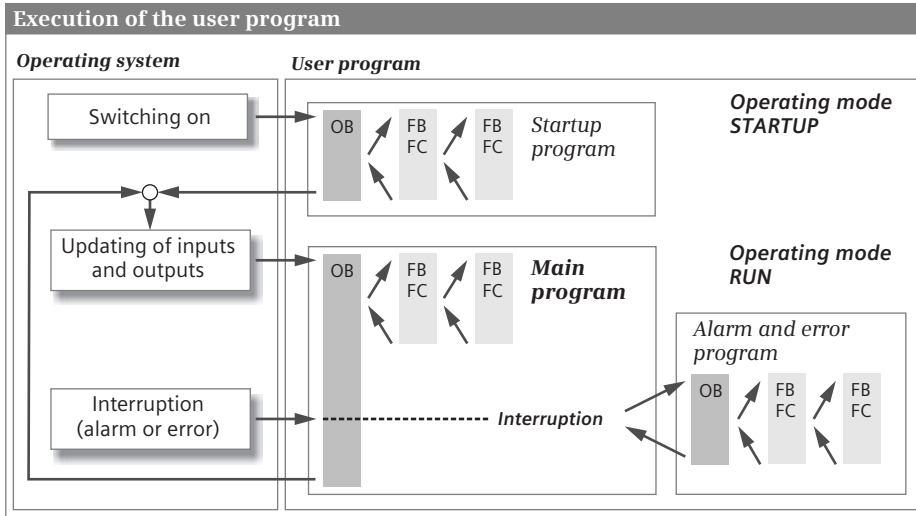

Fig. 1.10 Execution of the user program
The user program is usually divided into individual sections called “blocks”. The organization blocks (OB) represent the interface between operating system and user program. The operating system calls an organization block for specific events, and the user program is then processed in it (Fig. 1.10).